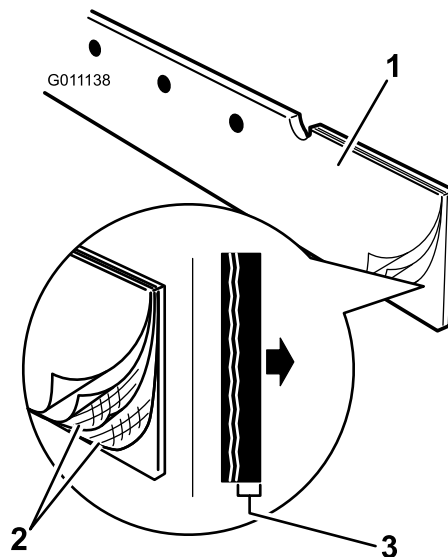

Figure 5
6. Position the wiper so that the rubber edge is forward and the fiber reinforced part of the cross section is to the rear (Figure 5).